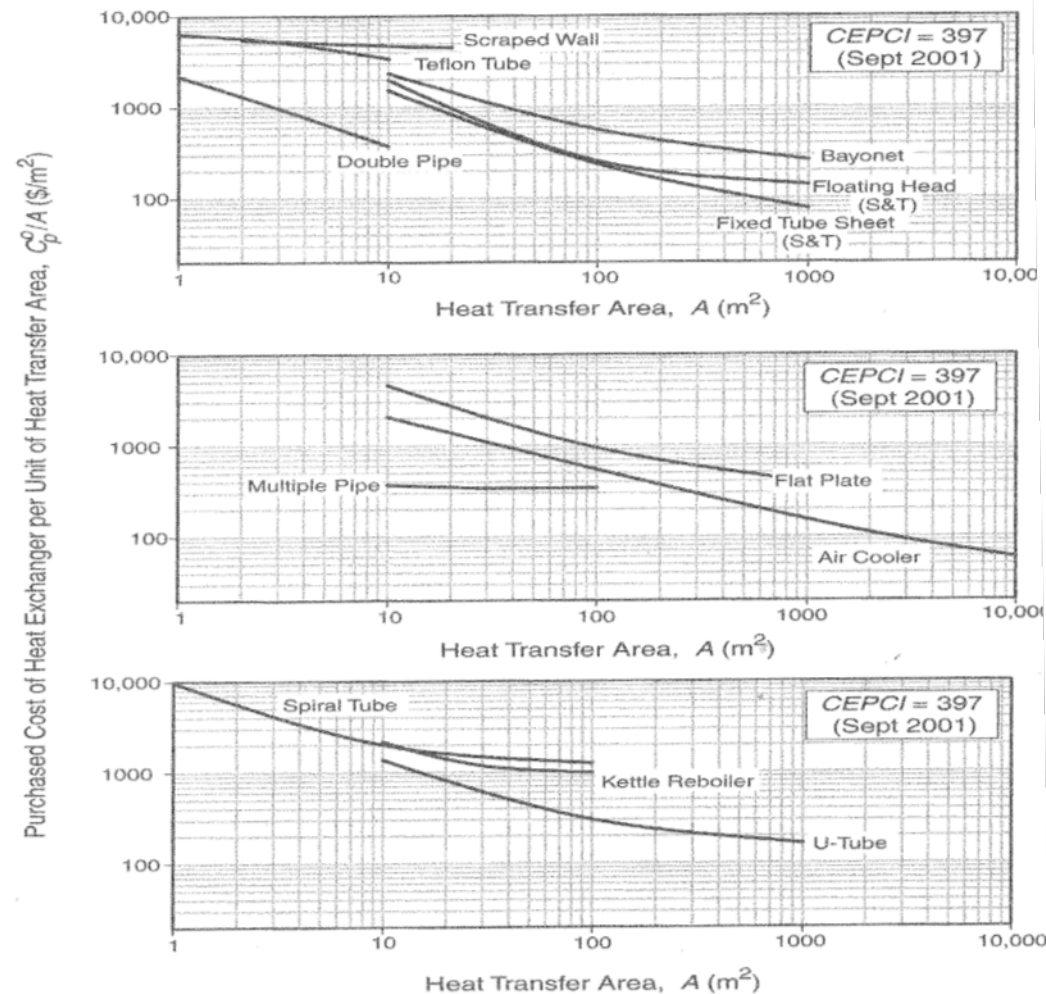

Figure A.5 Purchased Costs for Heat Exchangers
- Effect of increasing size (S) on the ***equipment cost per unit capacity?***
- ❑ **Cost plots:** Example – Heat exchanger purchase cost from Figure A.5 in Turton's book (2013 edition)